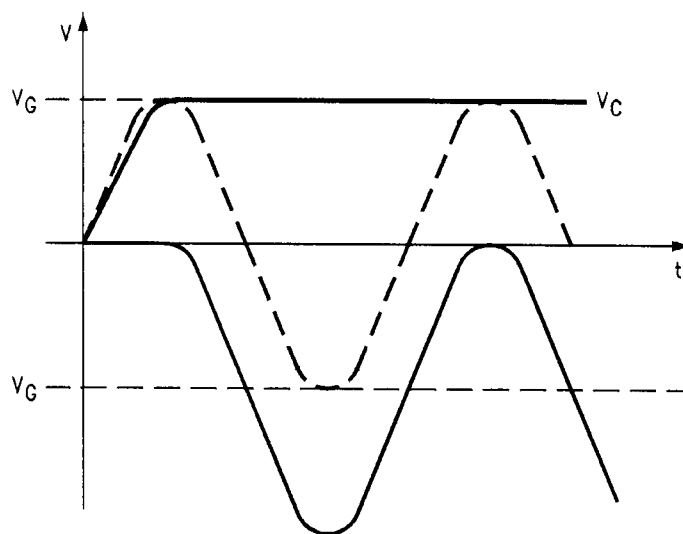

fig.B07.4
Suppose the applied signal is an ac sine wave: $v_G(t) = V_G \sin(\omega t)$, (see figure B07.4). The circuit operation, with no load, is as follows:
- as the capacitor cannot discharge through the diode, the voltage across the diode is equal to the difference between the input voltage and the capacitor voltage (figure B07.4)